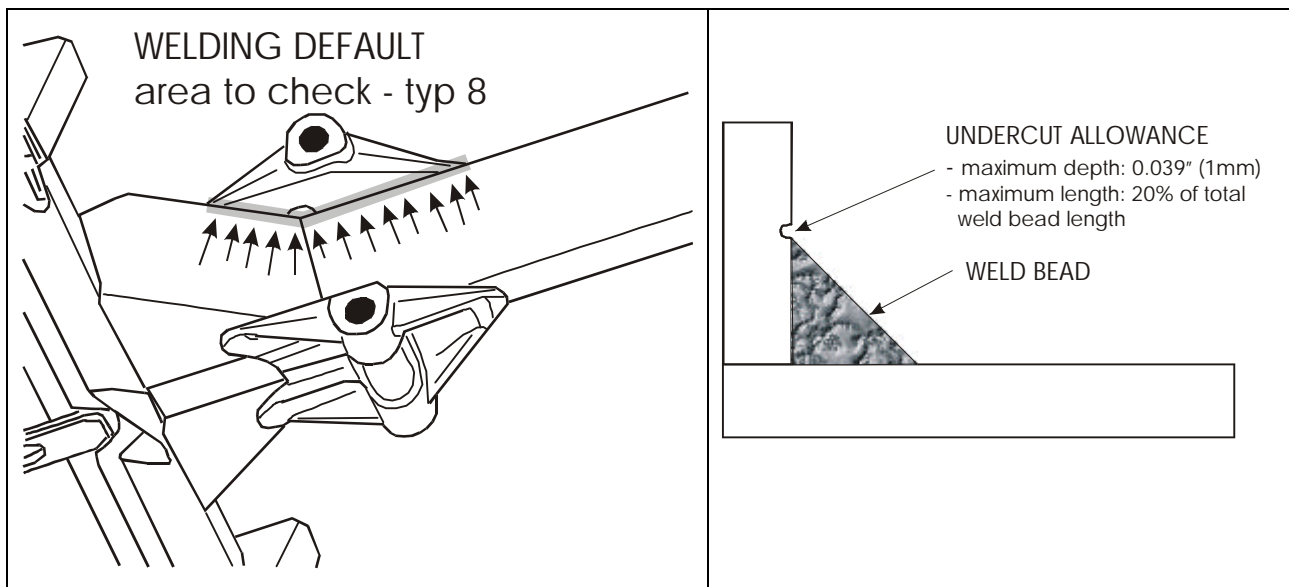

FIGURE 2: CHECK THIS AREA ON EACH ATTACHMENT BRACKETS FIGURE 3: UNDERCUT TOLERANCE
3. Check the weld beads each side of the attachment brackets. There are 8 weld beads to check (figure 2).